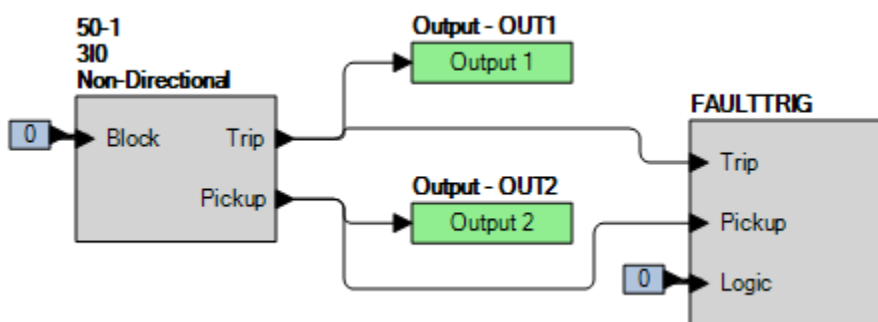

Figure 62-2. BESTlogicPlus Settings (3I0 Mode)
- Step 2: Use BESTCOMS*Plus* to configure the BESTlogic*Plus* programmable logic shown in Figure 62-2.
- Step 4: Prepare to monitor the 50-1 function operation. Operation can be verified by monitoring OUT2 (see Figure 62-2).